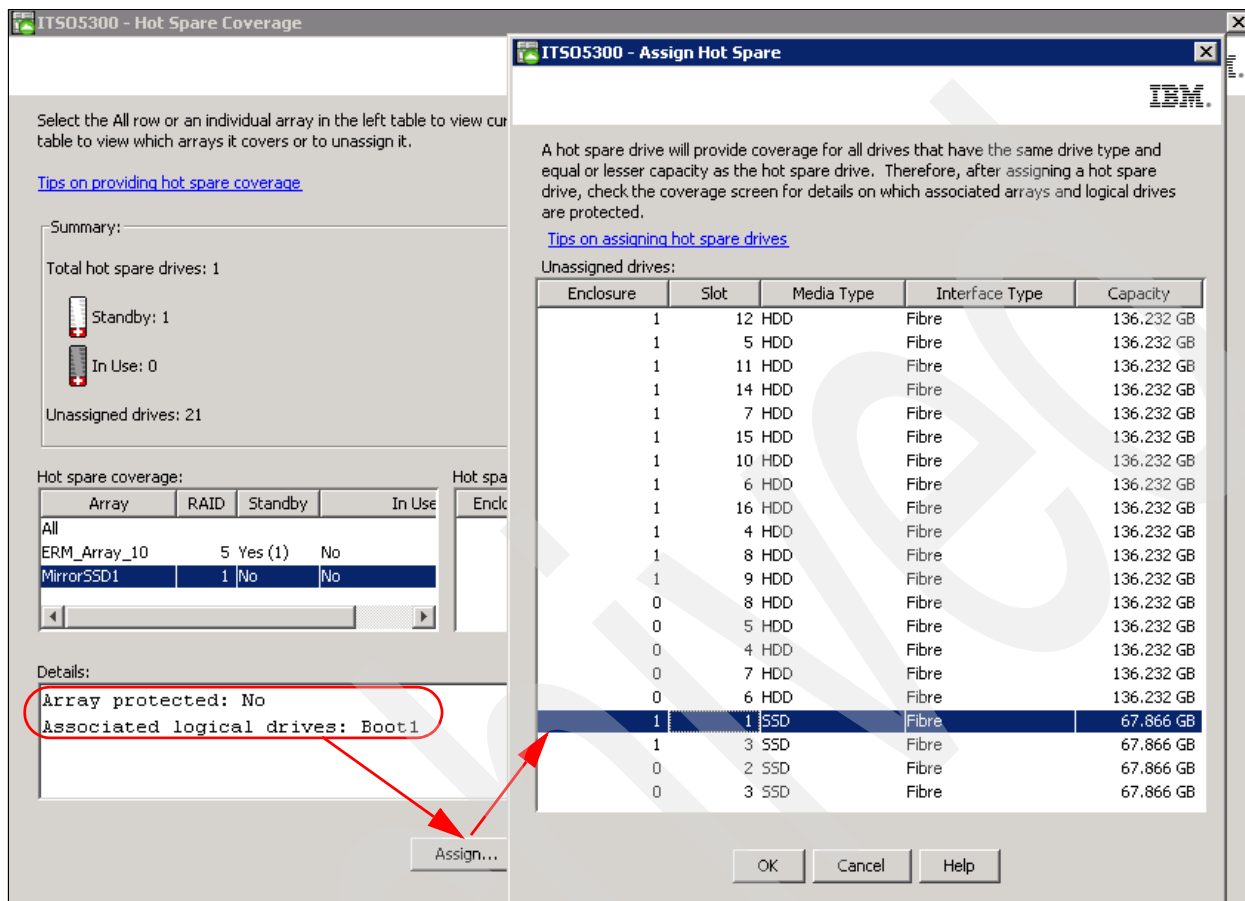

Figure 4-56 Assigning hot spare protection for an array
Make sure to use this window to check that all your arrays are protected. If they are not protected, implement complete hot spare protection for all the arrays, as shown in Figure 4-56.
- To resolve this exposure, click the **Assign** option button. The Assign Hot Spare window opens, as shown in Figure 4-56.